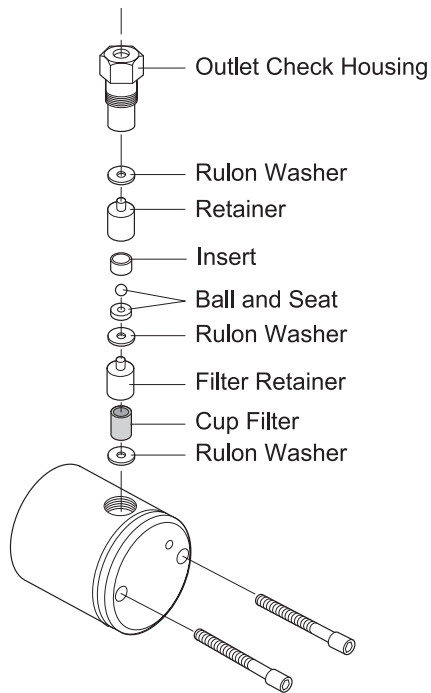

Figure 4-13 Outlet Check Valve Assembly
9. Check the retainer and ball and seal (Figure 4-13) for damage or debris. The housing seal, which may be difficult to remove, does not normally require replacement.
1. Hold the outlet check housing so you can look down into it (Figure 4-13). Drop the rulon washer in the housing. Place the housing aside.